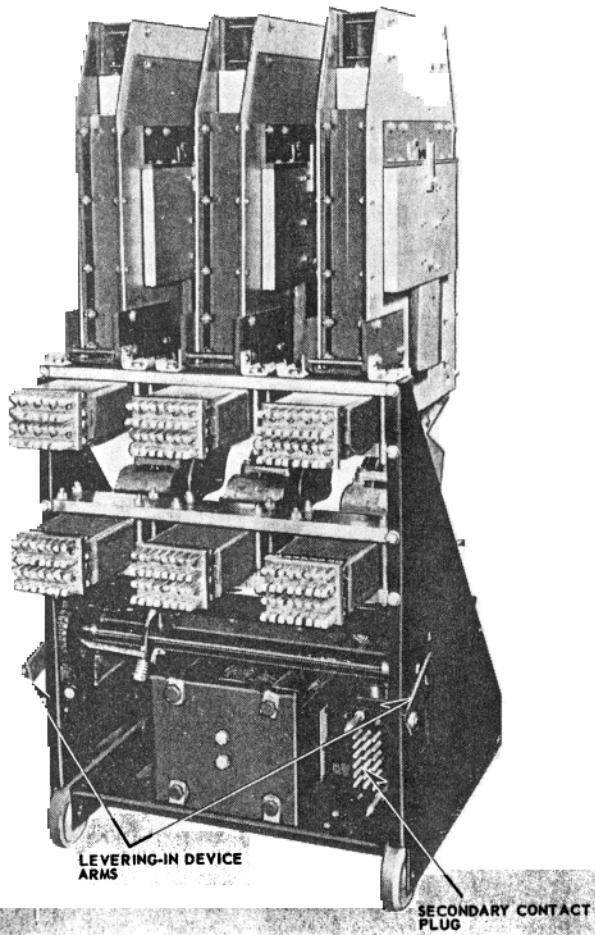
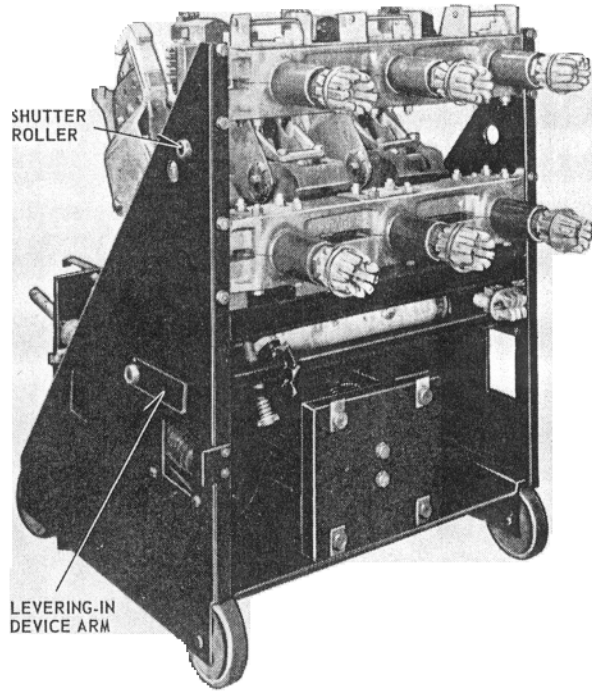

FIG. 11. Rear View of 3000 Amp., 50-DH-350 Breaker
FIG. 12. Rear View of 1200 Amp., 50-DH-350 Breaker
Before a breaker is rolled into a cell, the levers, with rollers, at each side of the breaker must point to the rear and slightly downward as shown in Fig. 11. The position of the levers shown in Fig. 12 is that which they take after the breaker is cranked into the operating position. To put the levers in the position shown in Fig. 11, place the crank on the operating shaft at the front right corner of the
With the levers to the rear and down as shown in Fig. 11, the breaker is ready to be rolled into the cell as far as the test position. The rollers on the levers strike vertical angles on the cell wall and stop the breaker at the test position. If the breaker is to be operated at this position, remove the crank and engage the secondary contacts in the manner described in the section under Secondary Contacts. To move the breaker from the test position to the fully engaged operating position, put the crank on the shaft, push in and rotate to engage the levering-in coupling, and crank clockwise. The torque required will increase slightly when the primary contact fingers engage the studs in the cell. Continue cranking to the end of the travel where the interlock will again fall free pushing the crank back out. Remove the crank. The indicator on the panel will again point to the word OPERATE.
**11. Prepare levering-in device to move breaker into cell.** Breakers are shipped with levering-in device in the position shown in Fig. 12. Before placing the breaker in the cell, the levering-in device roller arms must be pointed to the rear of the breaker and slightly downward as shown in Fig. 11. To put the levers in the position just described, place the crank over the shaft extending through the right front corner of the mechanism